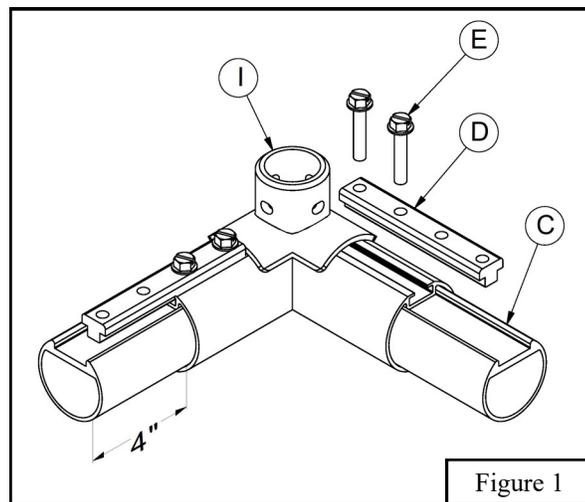

Figure 1
- Slide *Inner Tubes (C)* into *Corners (I)* with approximately 4" extending from *Corner (I)*. See Figure 1.
- Lay *Connecting Bars (D)* into the channel of *Corner (I)* making sure two mounting holes are overlapping the *Corner (I)*. Drill a 5/16" hole through the center of one of the mounting holes in *Connecting Bar (D)* and install a 3/8" X 2" *Self Threading Machine Screw (E)*. Repeat process to install the second 3/8" X 2" *Self Threading Machine Screw (E)* in each *Connecting Bar (D)*. Once all of the 3/8" X 2" *Self Threading Machine Screws (E)* are installed loosen each 3/8" X 2" *Self Threading Machine Screw (E)* one full turn to allow easy assembly with *Crossbar (A)* and *Uprights (B)*. Repeat process for all corner assemblies. See Figure 1.